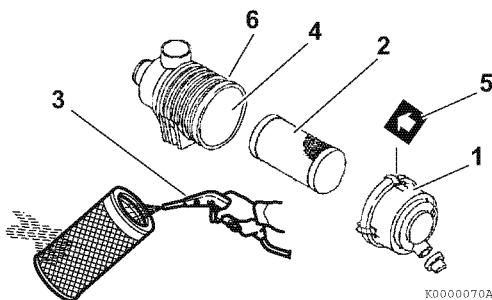
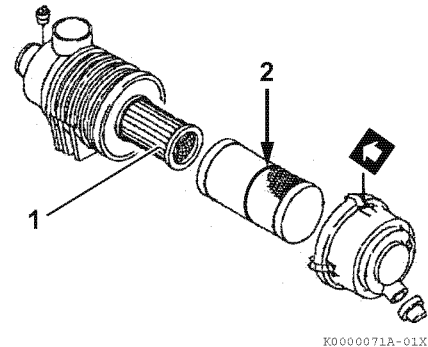

Figure 5-8
Figure 5-9
Note that a typical air cleaner is shown in **Figure 5-8** and **Figure 5-9** for illustrative purposes only.
1. Unlatch and remove the air cleaner cover (**Figure 5-8, (1)**).
2. Remove the element (**Figure 5-8, (2)**) (outer element if equipped with two elements).
3. Blow air (**Figure 5-8, (3)**) through the element from the inside out using 42 - 71 psi (0.29 - 0.49 MPa; 3.0 - 5.0 kgf/cm²) compressed air to remove the particulates. Use the lowest possible air pressure to remove the dust without damaging the element.
4. If the air cleaner is equipped with a double element, only remove and replace the inner element (**Figure 5-9, (1)**) if the engine lacks power or the dust indicator actuates (if equipped).
8. Install the element into the air cleaner case (**Figure 5-8, (4)**).
- Note: If there is a red line (**Figure 5-9, (2)**) in the outer element, reinsert the element until the overlap position of red line and end face of the air cleaner case.*
9. Reinstall the air cleaner cover making sure you match the arrow (**Figure 5-8, (5)**) on the cover with the arrow on the case (**Figure 5-8, (6)**).
Replace the air cleaner element (**Figure 5-8, (2)**) every 500 hours even if it is not damaged or dirty.
When replacing the element, clean the inside of the air cleaner case (**Figure 5-8, (4)**).
If the air cleaner is equipped with a double element, *only remove and replace the inner element (**Figure 5-9, (1)**) if the engine lacks power or the dust indicator actuates (if equipped)*. This is in addition to replacing the outer element.